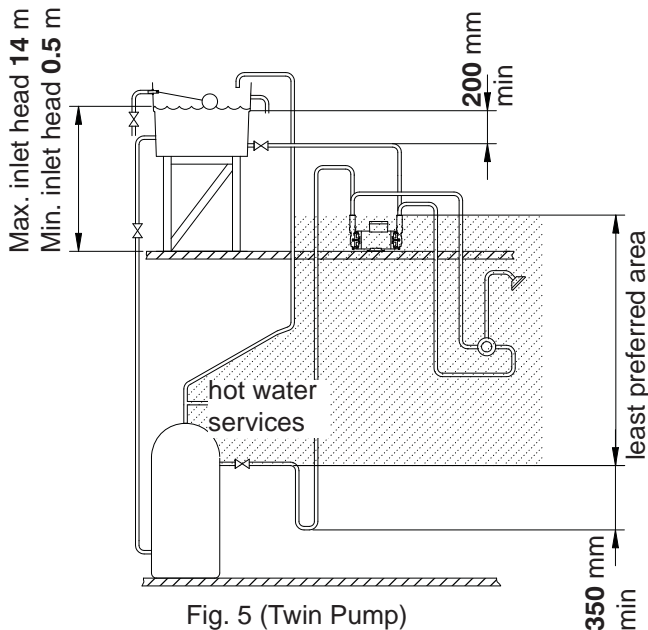
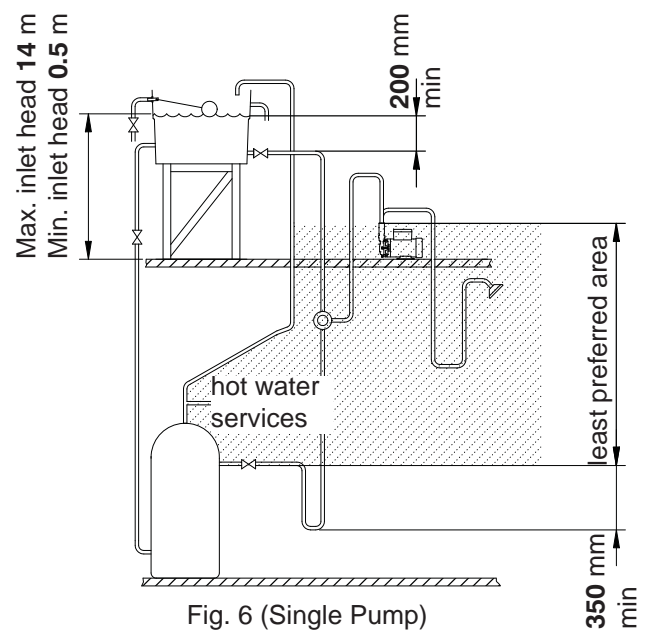

Fig. 5 (Twin Pump)
Fig. 6 (Single Pump)
- 1) A “U” bend or downward loop in the supply pipe to the pump of 350 mm depth before rising to the pump should ensure the cylinder vents its air up the expansion pipe not up the pump feed (Fig. 5 for Twins and Fig. 6 for Singles).